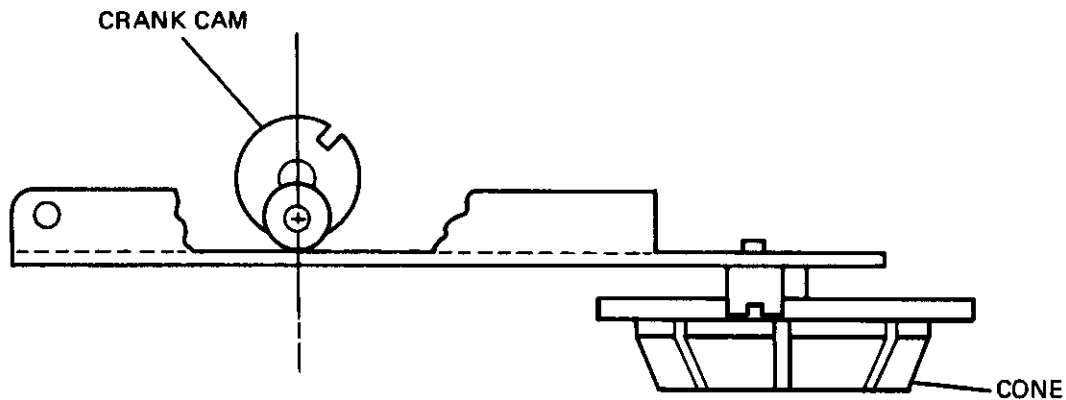

Figure 2-11B. Eject Motor Cam Alignment Check - Carrier Closed
- c. Observe the crank cam moves to a bottom dead center position relative to the carrier plane, i.e., maximum penetration of cone assembly into hub. (Figure 2-11B.)